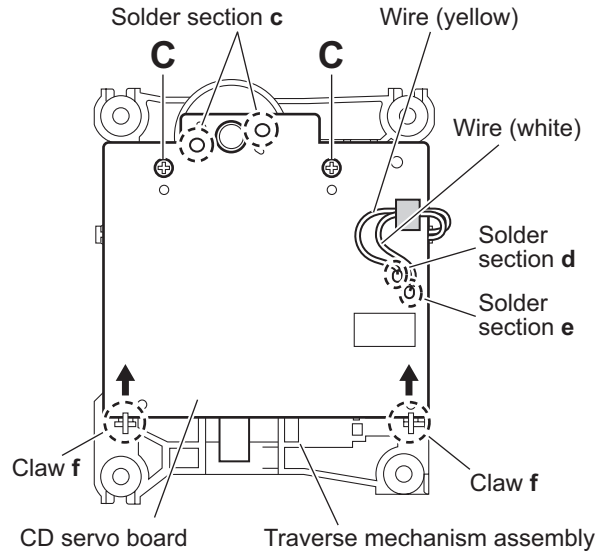

Fig.5
3.2.3 Removing the CD servo board (See Figs.5 and 6)
- (1) From the bottom side of the traverse mechanism assembly, remove the solders from the solder sections **c**. (See Fig.5)
- (2) Remove the wire (yellow) from the solder sections **d**. (See Fig.5)
- (3) Remove the wire (white) from the solder sections **e**. (See Fig.5)
- (4) Remove the two screws **C** attaching the CD servo board. (See Fig.5)
- (5) Remove the CD servo board from the claws **f** in the direction of the arrow and turn the CD servo board over. (See Fig.5)